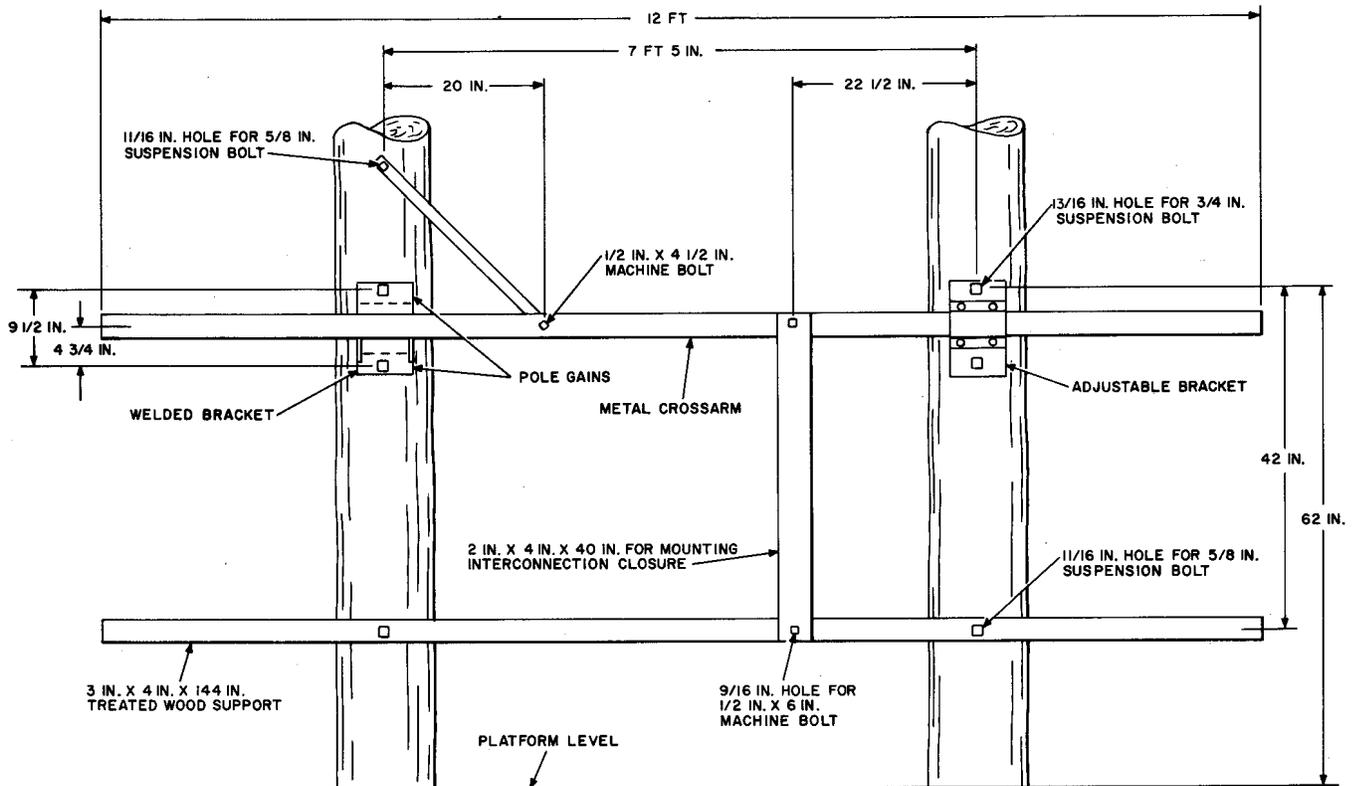

Fig. 11—AT-8783C Metal Crossarm Mounted For Three RT Cabinets
5.11 Set two 12-foot, class 5 stub poles 5 feet deep and on 7-foot 5-inch centers as shown in Fig. 11. A 54- by 144-inch platform, if specified, should be built 3 inches out from the pole.
5.12 Mount the crossarms as shown in Fig. 11 using two pole gains behind the welded support bracket of the metal crossarm. Ensure the side of the crossarm marked "this side up" is in the proper position. Adjust the position of the crossarm, if required, by sliding the mounting bracket to the proper position.
5.13 Attach the crossarm brace as shown in Fig. 11 and as described in paragraphs 5.07 and 5.08.
5.14 Mount a 2- by 4- by 40-inch wooden support to span the distance between the crossarms for the interconnection closure as shown in Fig. 11.